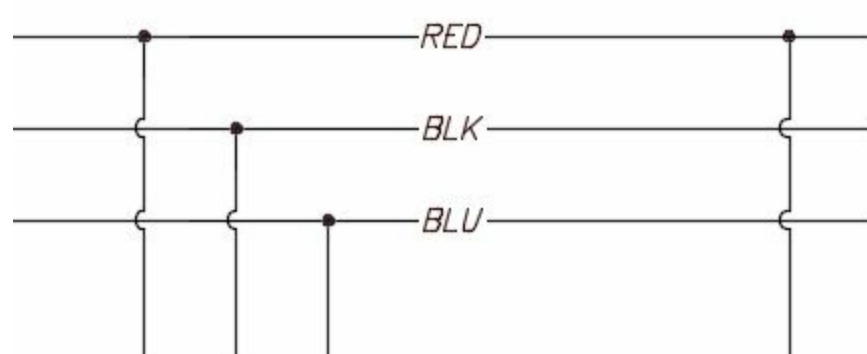
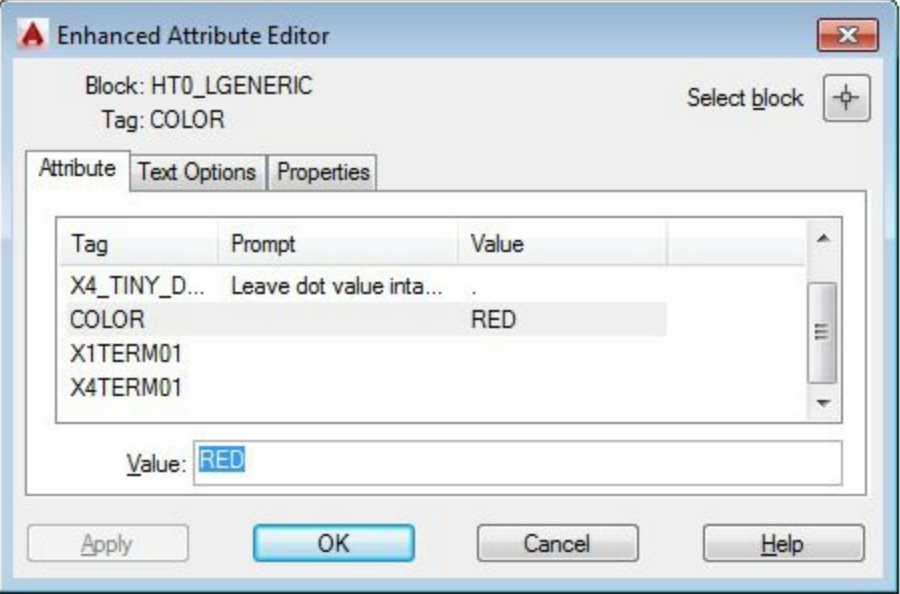

Figure-59. Wires after color coding
Figure-60. Enhanced Attribute Editor dialog box for color
- Similarly, set the middle and bottom wire as **Black** and **Blue** respectively; refer to Figure-59. Note that by default, the tags on wires are displayed in yellow color. To change the color, double click on the color name in the label. The **Enhanced Attribute Editor** dialog box will be displayed; refer to Figure-60.